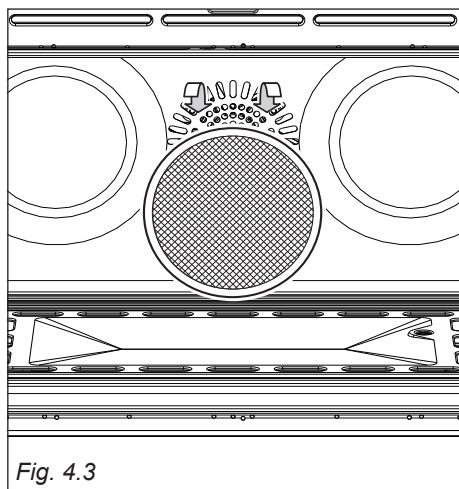

Fig. 4.3
- A special screen is provided at the back of the oven to catch grease particles, mainly when meat is being roasted (fig. 4.3).
- Slide in the grease filter on the back of the oven as in fig. 4.3.